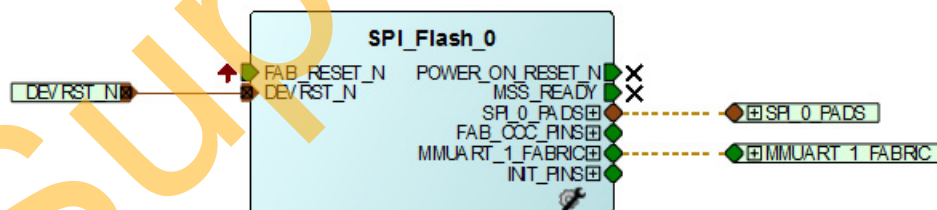

Figure 12 • SPI_Flash_0 Design
7. Click **File > Save**. The SPI_Flash_0 is displayed as shown in Figure 12.